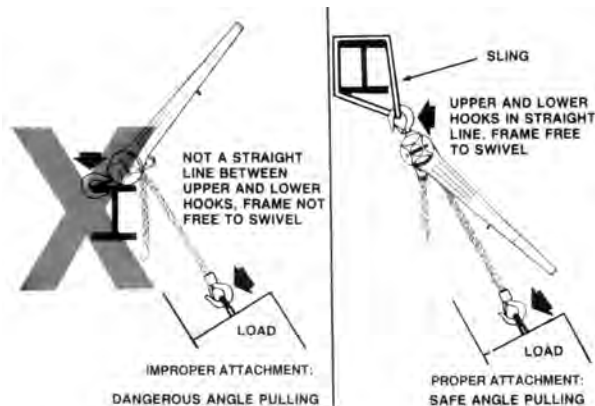

Figure 4. Angle Pulling
RIG THE UNIT IN A STRAIGHT LINE HOOK TO HOOK MANNER AND KEEP FRAME FREE TO SWIVEL - SEE FIGURE 4.
Attaching Load - As discussed in installation section, attach load so that upper and lower hooks are in a straight line with the frame free to swivel on upper hook. If proposed use prevents straight line attachment, use an Anchor Sling (see page 2) or chain sling to obtain a straight line pull. Refer to Figure 4.
13. Do not operate the hoist unless it is rigged to pull in a straight line from hook to hook, and the frame is free to swivel on the upper hook. Refer to Figure 4.